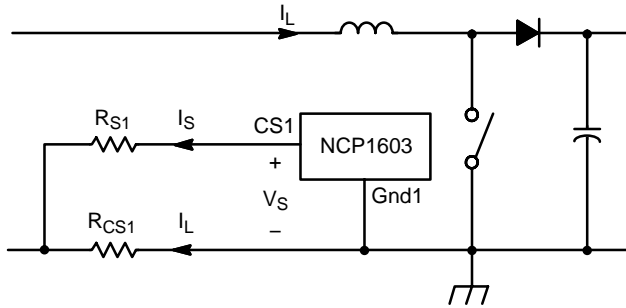

Figure 64. Current Sense in PFC Section
The PFC section senses the inductor current I_L by the current sense scheme in Figure 64. This scheme has the advantages of: (1) the inrush current limitation by the resistor, R_{CS1} , and (2) the overcurrent protection and zero current detection implemented in the same pin.
Inductor current I_L passes through R_{CS1} and creates a negative voltage. This voltage is measured by a current I_S flowing out of the CS1 pin (Pin 11). CS1 pin has an offset voltage V_S . This offset voltage is studied in the setting of zero inductor current $I_{L(ZCD)}$ and the maximum inductor current $I_{L(OC)}$ (i.e., overcurrent protection threshold). A typical variation of offset voltage V_S versus sense current I_S is shown in Figure 35. Based on Figure 64, Equation 20 is derived.